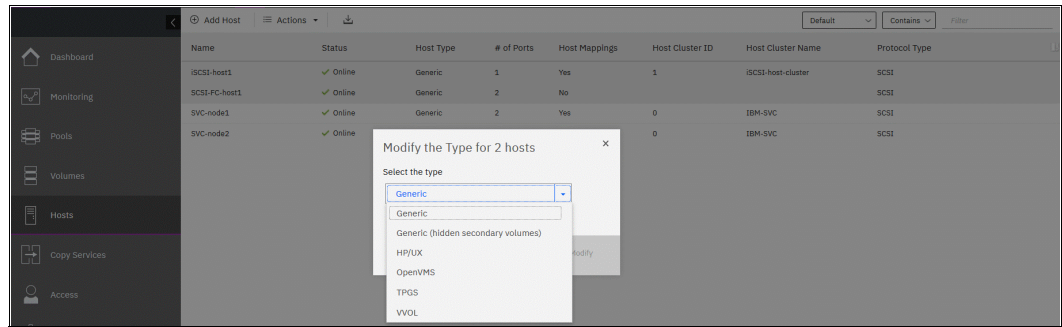

Figure 7-49 Changing the host type
2. From the Modify Type dialog window (see Figure 7-49 on page 520), select one of the available host types: